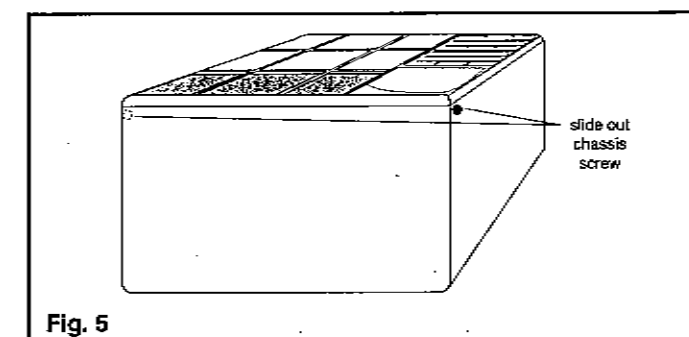

Fig. 5
- Remove the two phillips screws (lower left/right side of cabinet) securing the slide-out-chassis to the cabinet. (Fig. 5)